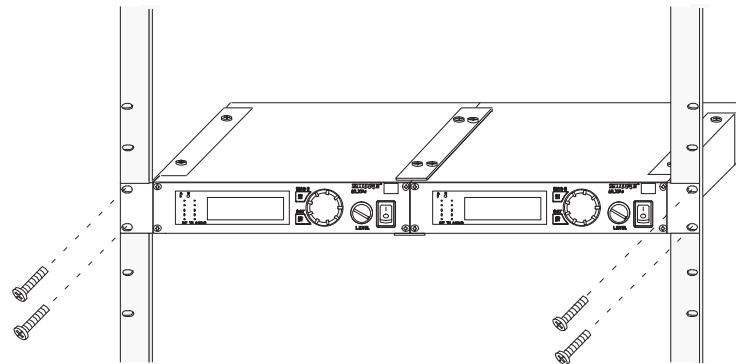

FIGURE 53
6. Slide the linked receivers into a 19-inch audio equipment rack, as shown in Figure 53.